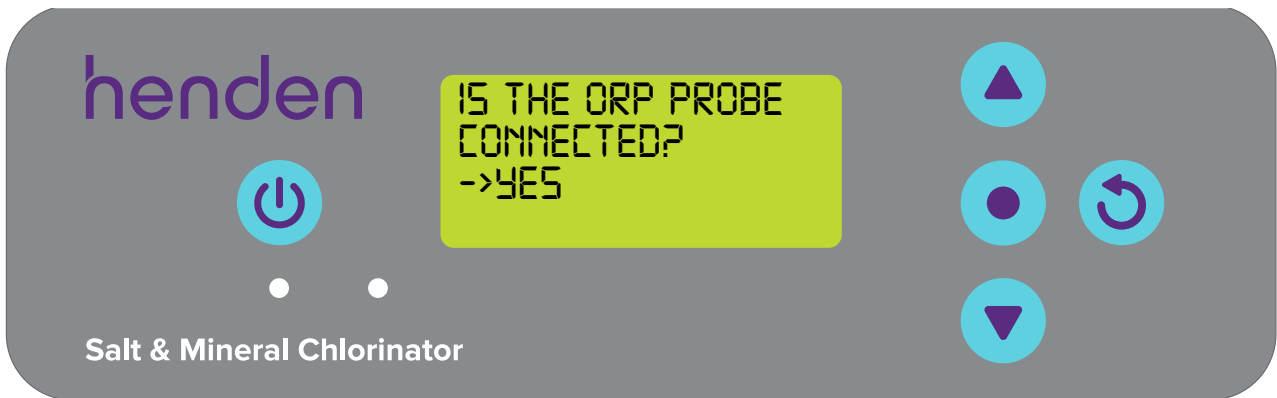

Figure 8.34
- Press the  **menu/setting select** button. The next screen will ask "is the ORP probe connected?" (Refer Figure 8.34)